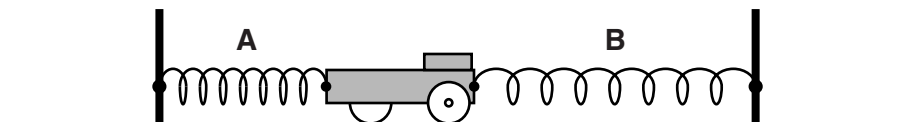

Fig. 3.2
- (ii) The mass of the trolley is 0.80 kg. The force constant of each spring is  $14 \text{ N m}^{-1}$ . A student pulls the trolley to the left as shown in Fig. 3.2.